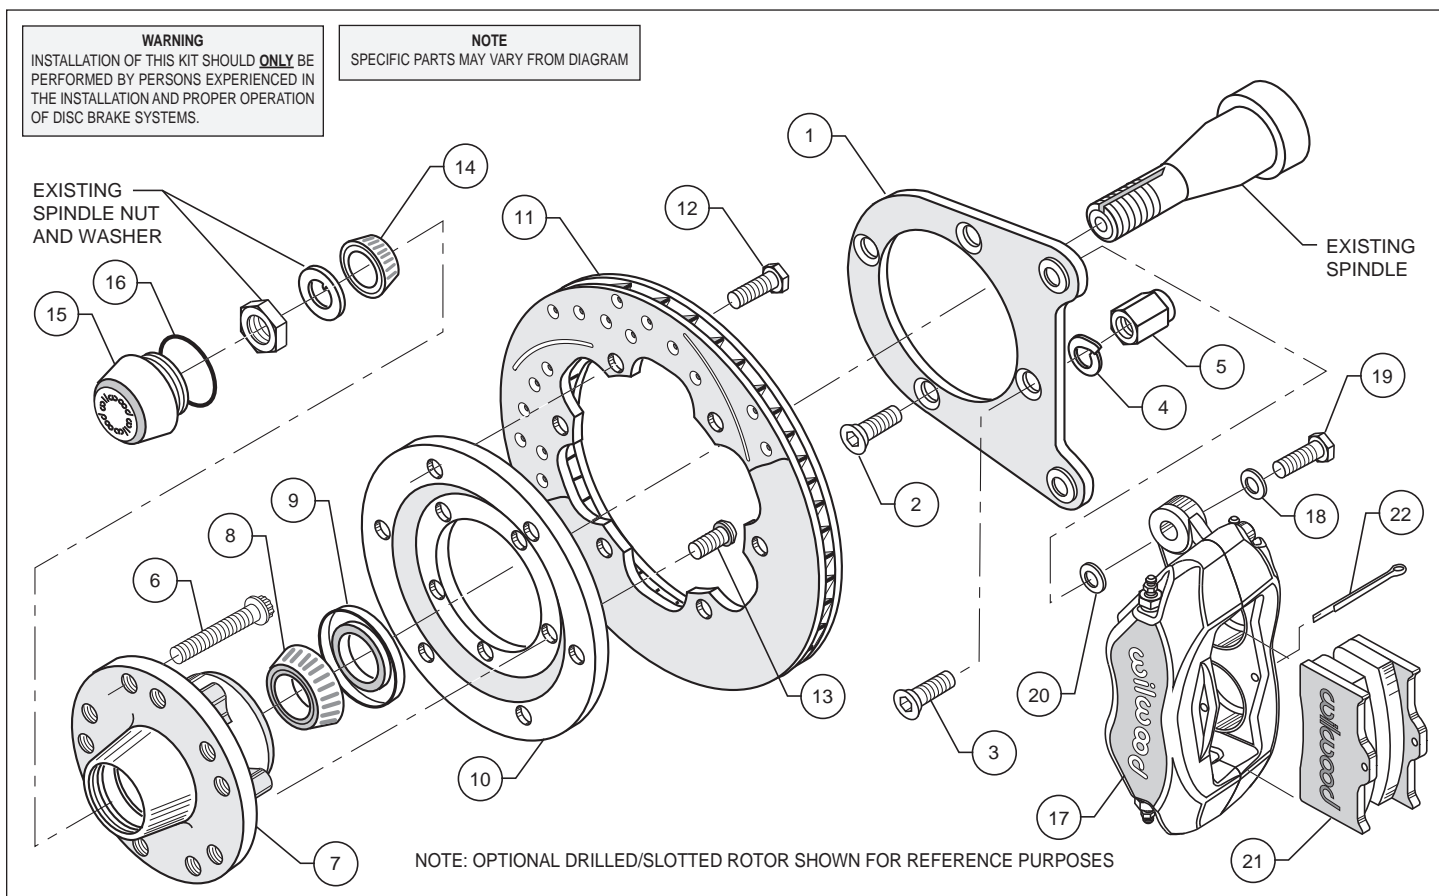
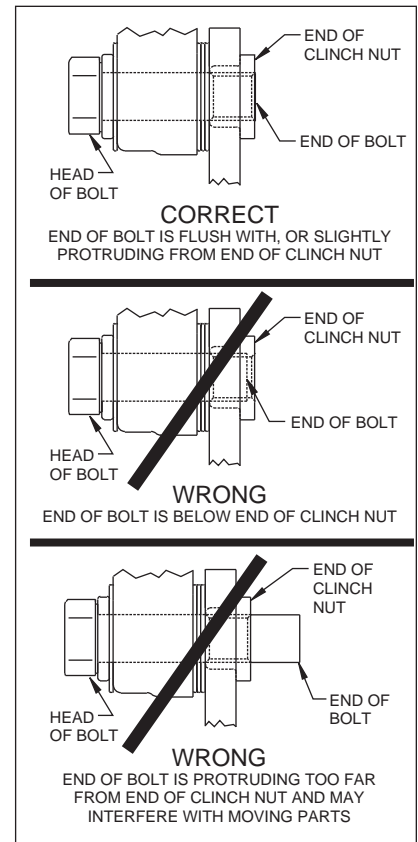

Figure 1. Typical Installation Configuration
Figure 4.
- Mount the adapter/rotor assembly (10/11) to the hub (7) using bolts (13) (finger tight), as shown in Figure 1. Using an alternating sequence, remove bolts one at a time, apply red *Loctite*® 271 to the threads, and torque to 55 ft-lb.
- Pack the small outer bearing cone (14) with high temperature disc brake bearing grease and install into front of hub (7). Slide the hub/rotor assembly (7 and 11) with outer bearing cone (14) onto the spindle. Secure using stock washer, adjusting nut and nut locking device. Adjust bearings per Original Equipment Manufacturer (OEM) specifications.
- Install the dust cap (15) onto the hub (7). Friction created by the o-ring (16) on the dust cap (15) keeps it from unscrewing. The O.D. of the existing spindle washer may be larger than the I.D. of the dust cap (15) not allowing it to seat against the hub face. Some grinding on the washer O.D. may be necessary to clear the I.D. of the dust cap (15).
- NOTE:** Please reference the caution statement at the beginning of the assembly instructions. Mount the caliper (17) onto the caliper bracket (1) using washers (18) and bolts (19). Finger tighten. View the rotor (10) through the top opening of the caliper (17). The rotor (11) should be aligned in the center of the caliper (17). If not, adjust the caliper (17) by using 0.032 inch thick shims (20) placed between the caliper mounting bracket (1) and the caliper (17). Finger tighten and recheck alignment. Use as many shim washers (20) as necessary to achieve the correct alignment. **NOTE:** The end of the bolt must be flush with or slightly protruding from the head of the clinch nut. See Figure 4. Place spare shims (20) between washer and caliper mounting ear to achieve the proper mounting fastener configuration. Always use the same amount of shims on both the top and bottom caliper mounting bolts (19). Apply red *Loctite*® 271 to bolt threads (19) and torque to 30 ft-lb. Safety wire caliper bolts (19).